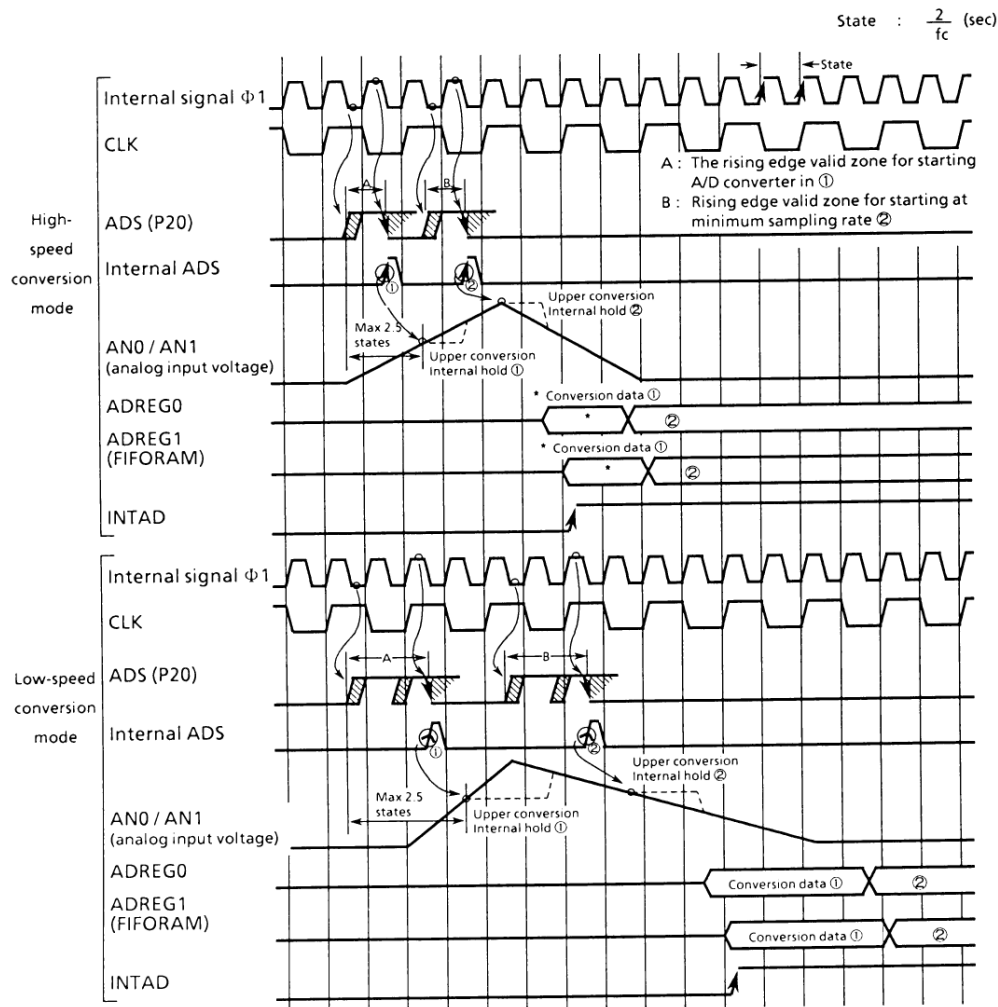

Figure 3.8 (3). External Start Conversion Timing
Note: The external start signal ADS is sensed with level in the 1/2 state zone from rising/falling edge of the CLK signal ($\phi 1$ zone in Figure 3.8 (3)).